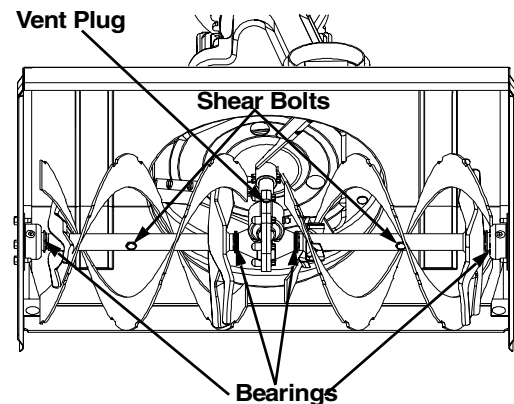

Figure 13
- At least once a season, remove the shear bolts from the auger shaft and spray lubricant inside the shaft. See Figure 13.
- Every season lubricate the auger bearings and the bearings on the side of the frame with light oil. See to Figure 13.
The augers are secured to the spiral shaft with two shear bolts and hex lock nuts. If you hit a foreign object or ice jam, the snow thrower is designed so that the bolts may shear. Refer to Figure 13.